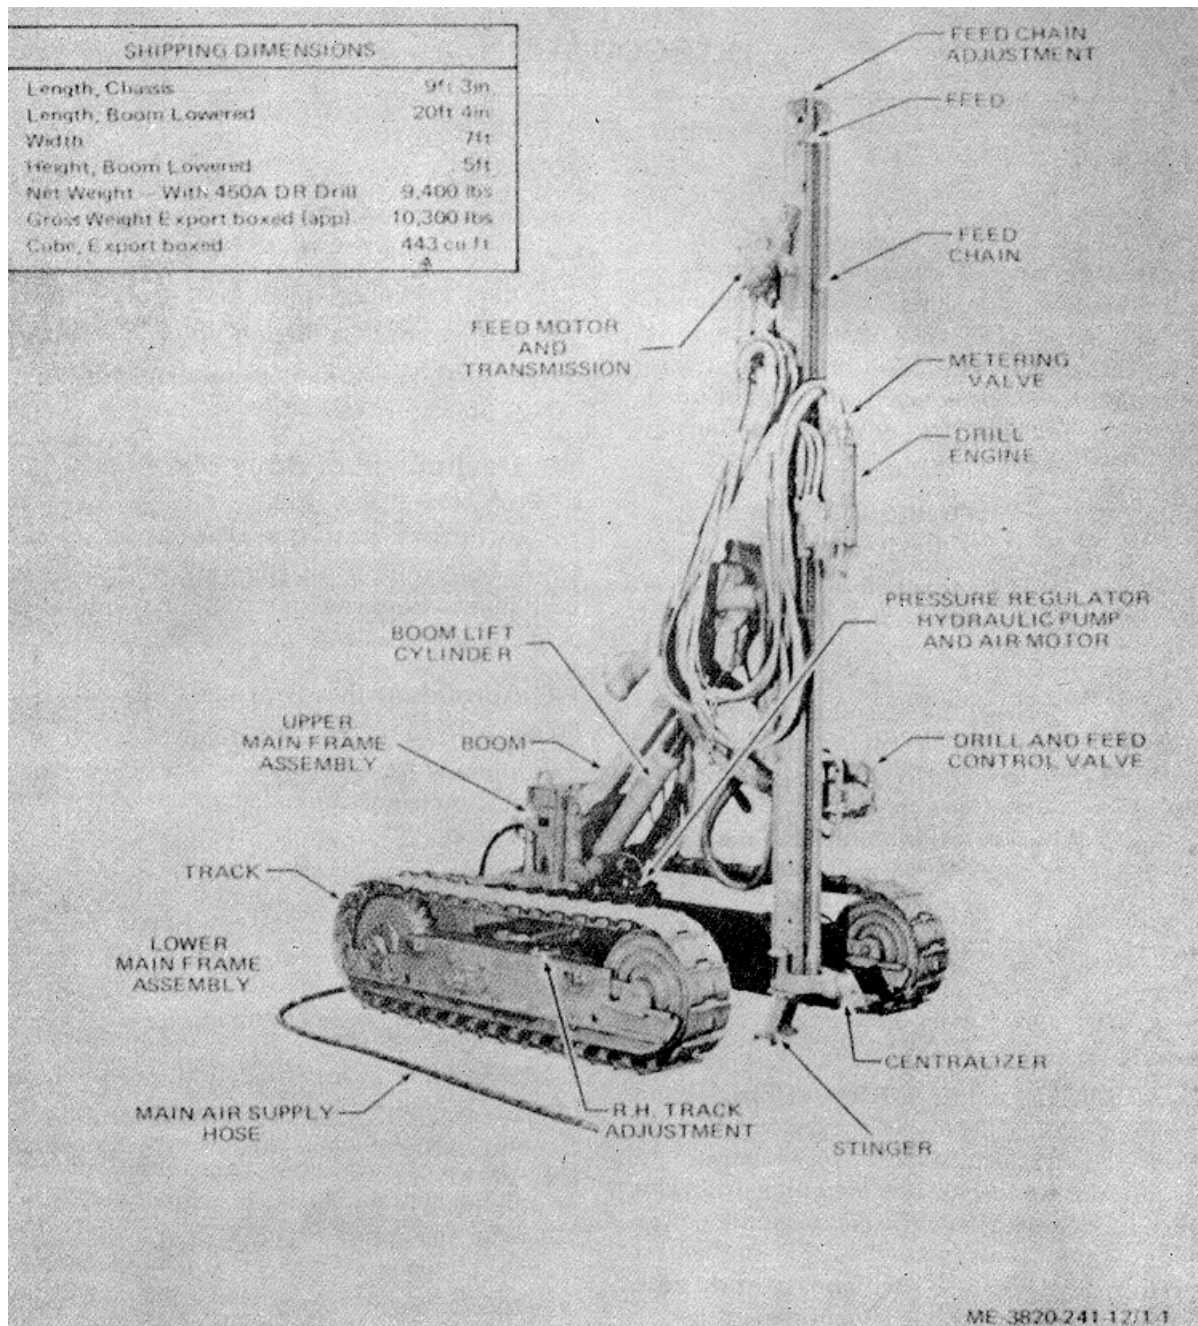

Figure 1-1. Rock drill assembly, right front, 3/4 view with shipping dimensions.
a. General. The pneumatic drifter drill (figs. 1-1 and 1-2) is a heavy duty, self-propelled crawler drill. The ram mounts a hydraulically operated swing boom jib that permits positioning of the feed and drill. The hydraulically operated boom also permits power positioning of the feed for vertical and horizontal drilling. The drill also can be positioned over the side of the crawler track for drilling in confined areas.
(1) A heavy duty precision type drill engine (fig. 1-1), designed for deep hole drilling in hard rock.
(2) A drill feed and control valve (fig. 1-1) to control the drill, blow, feed, and rotation functions.
(3) A feed assembly (fig. 1-1) used as a track for the drill engine to slide back and forth during the drilling operation.
(5) A stinger (fig. 1-1) mounted on the front end of feed to provide a pressure point for drilling.
(6) A centralizer (fig.1-1) used to maintain drilling alignment.
(7) A feed motor and transmission (fig. 1-1), used to pull the drill slab back, forward or backward along the feed.
(8) A boom (fig. 1-1), which is a connecting assembly between the feed mechanism and the tractor.
(13) An upper main frame assembly or pedestal (fig. 1-1) is a steel weldment which mounts the boom controls, tramming controls, pump motor shut-off and lubricator.
(18) A lower main frame assembly (fig.1-1) which is the tractor section of the drill carrier.
(19) A track oscillating system which permits each track to move separately to conform with terrain.
(20) Two tramping motors and transmissions to power the drill carrier.
(21) A hydraulic pump and air motor pressure